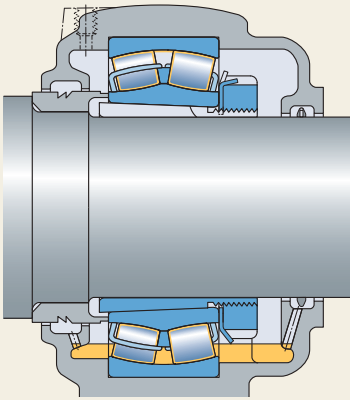

Fig. 4
- Oil is salvaged and directed to the bearings by means of drain and ducts (fig. 4).